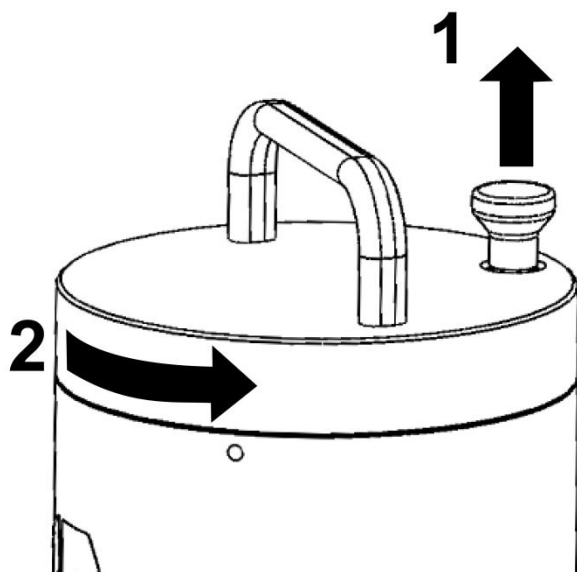

Figure 1: Removal of generator top cover
Pull up the locking pin on the generator top cover (1), rotate the cover 30° counterclockwise (2) and lift it up to remove (figure 1).